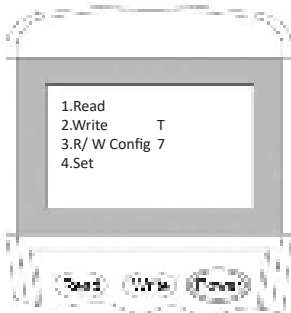

Figure 10
2. Switch-on the programming tool, then press button **"3"** to enter to **Configuration mode** (Figure 10).